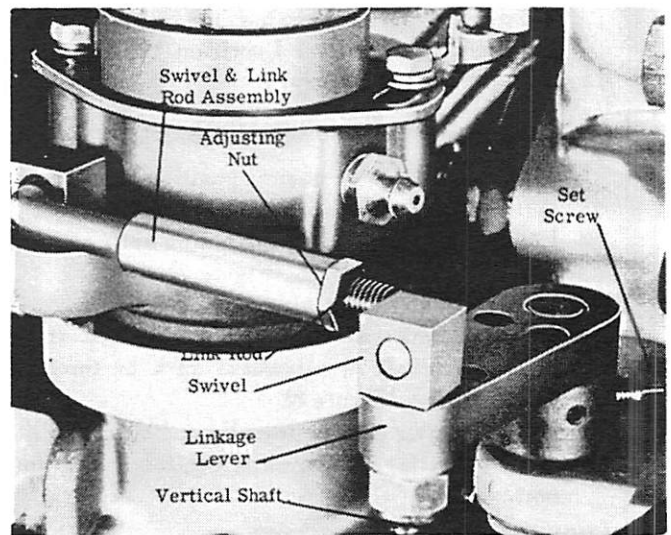

Figure 10. Vertical Shaft Adjustment
2. Adjust length of link between vertical shaft and distributor actuator to obtain a speed of 2400-to-3000 RPM. (Figure 10)